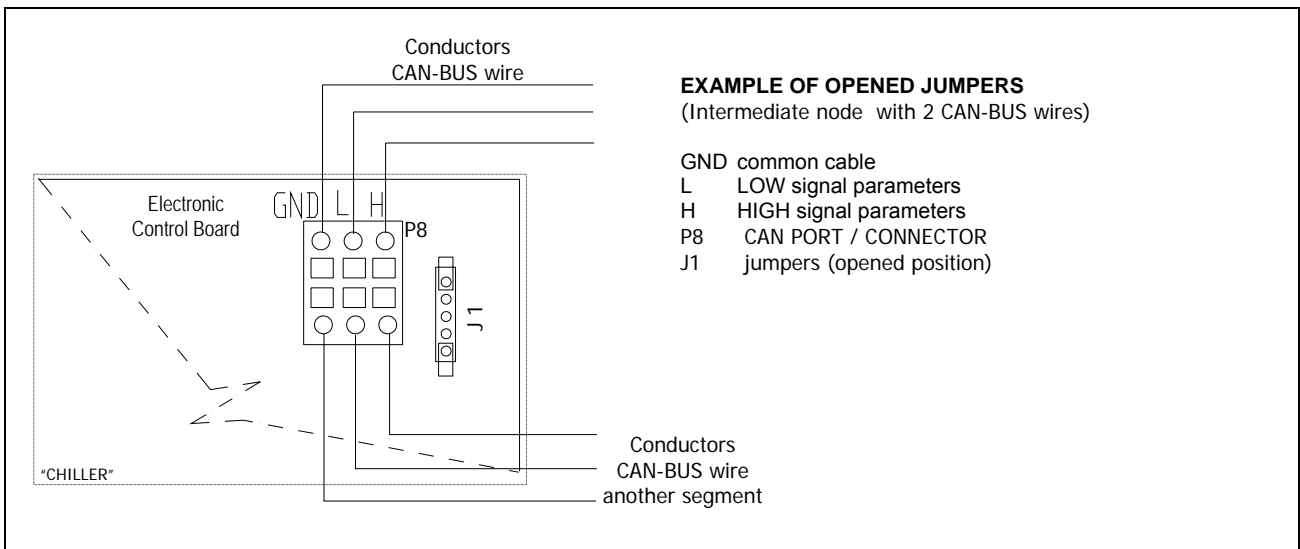

Figure 22– DETAILED EXAMPLE OF THE CONNECTION OF TWO CAN-BUS WIRES WITH THE ELECTRONIC CONTROL BOARD
- 3c** Connect 3 conductors of the 2nd CAN-BUS wire, respecting the signal/color indications as in Table 9, page 37 with the other 3 inlets H, L, GND of the other connector as in Figure 22, pag 39.
- 2nd CASE: on the orange connector of CAN Port, there are 6 conductors (terminal nodes): in this case, the 2 Jumpers existing beside the orange connector of CAN Port should be adjusted as indicated in Figure 22, page 39 (details J1).